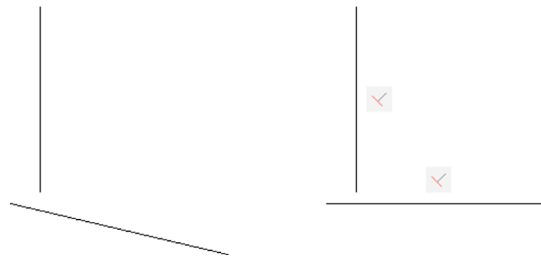

FIGURE 13.12 Perpendicular geometric constraints.
Step 1. Draw two lines that are roughly perpendicular, as seen in Fig. 13.12 (left).
Immediately after the selection of the second line, you see it snap to perpendicular and two sets of geometrical constraints are added next to each line, as seen in Fig. 13.12 (right). Note that, if you were to select the bottom line first, then the vertical one would snap to it, not the other way around. Selection order matters.